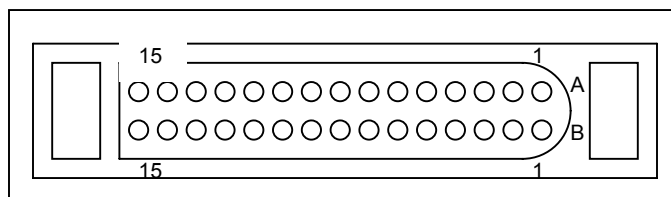

Figure 15: Pin layouts of 30-pin Bendix connector.
Step 4 – Refer to *Figure 15* and Center Pin and Ground Connections – Table 3-3 for the correct pins for the Eclipse cable.